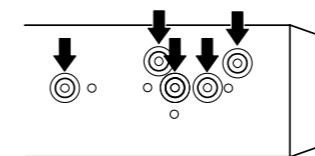
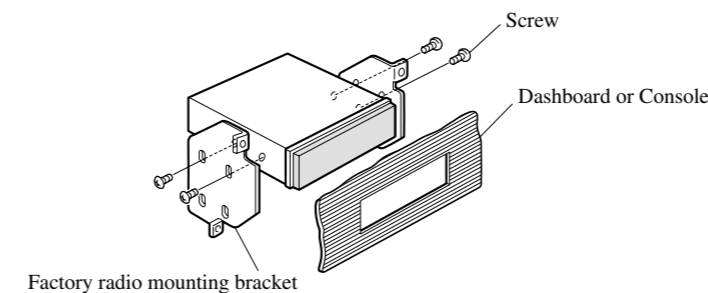

Fig. 13
Fig. 14
**2. Fastening the unit to the factory radio mounting bracket. (Fig. 13) (Fig. 14)**